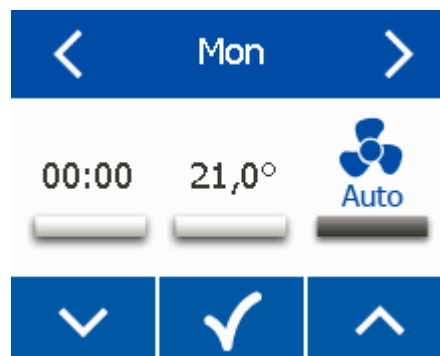

Fig. 89: Setting the supply air flow rate
8. ▶ On the screen in Fig. 89 set a mode for the supply air flow rate using the ▼ and ▲ buttons; then confirm your selection by clicking ✓.